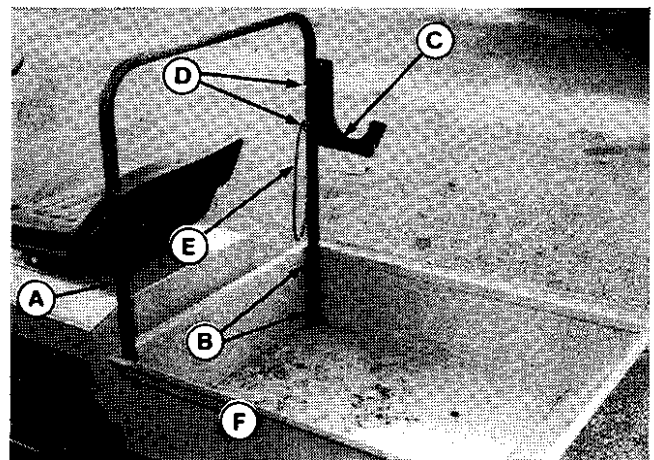
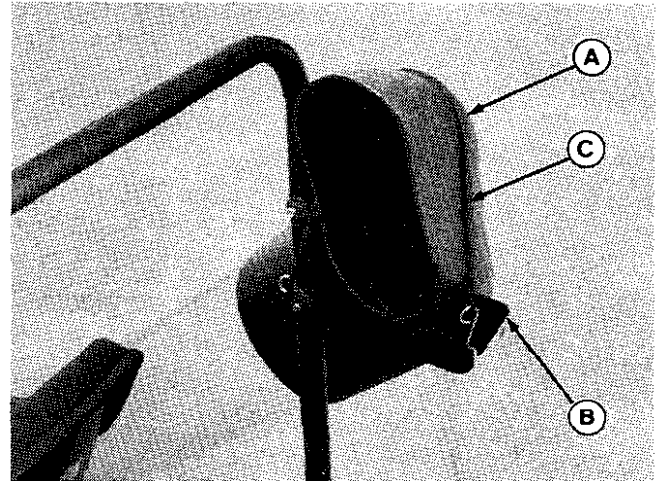

Figure 20.
Figure 23. (Shown without cover for clarity.)
1. Install the frame (A, figure 20) at four locations (B) with 5/16-18 x 1-1/2 capscrew, washer and nut. Install spacers (F) at top **capscrew** on each side (see figure 8).
2. Attach the bracket (C, figure 20) with two 5/16-18 x 1-3/4 bolts (D), washers and nuts. Attach strap (E) with lower set of hardware.
5. Pick up the cover and place down onto the frame (A, figure 20) inserting the elbow (A, figure 23) into the bracket (B) (shown without cover for clarity). Pull the rubber strap (C) over the elbow and hook into bracket as shown.